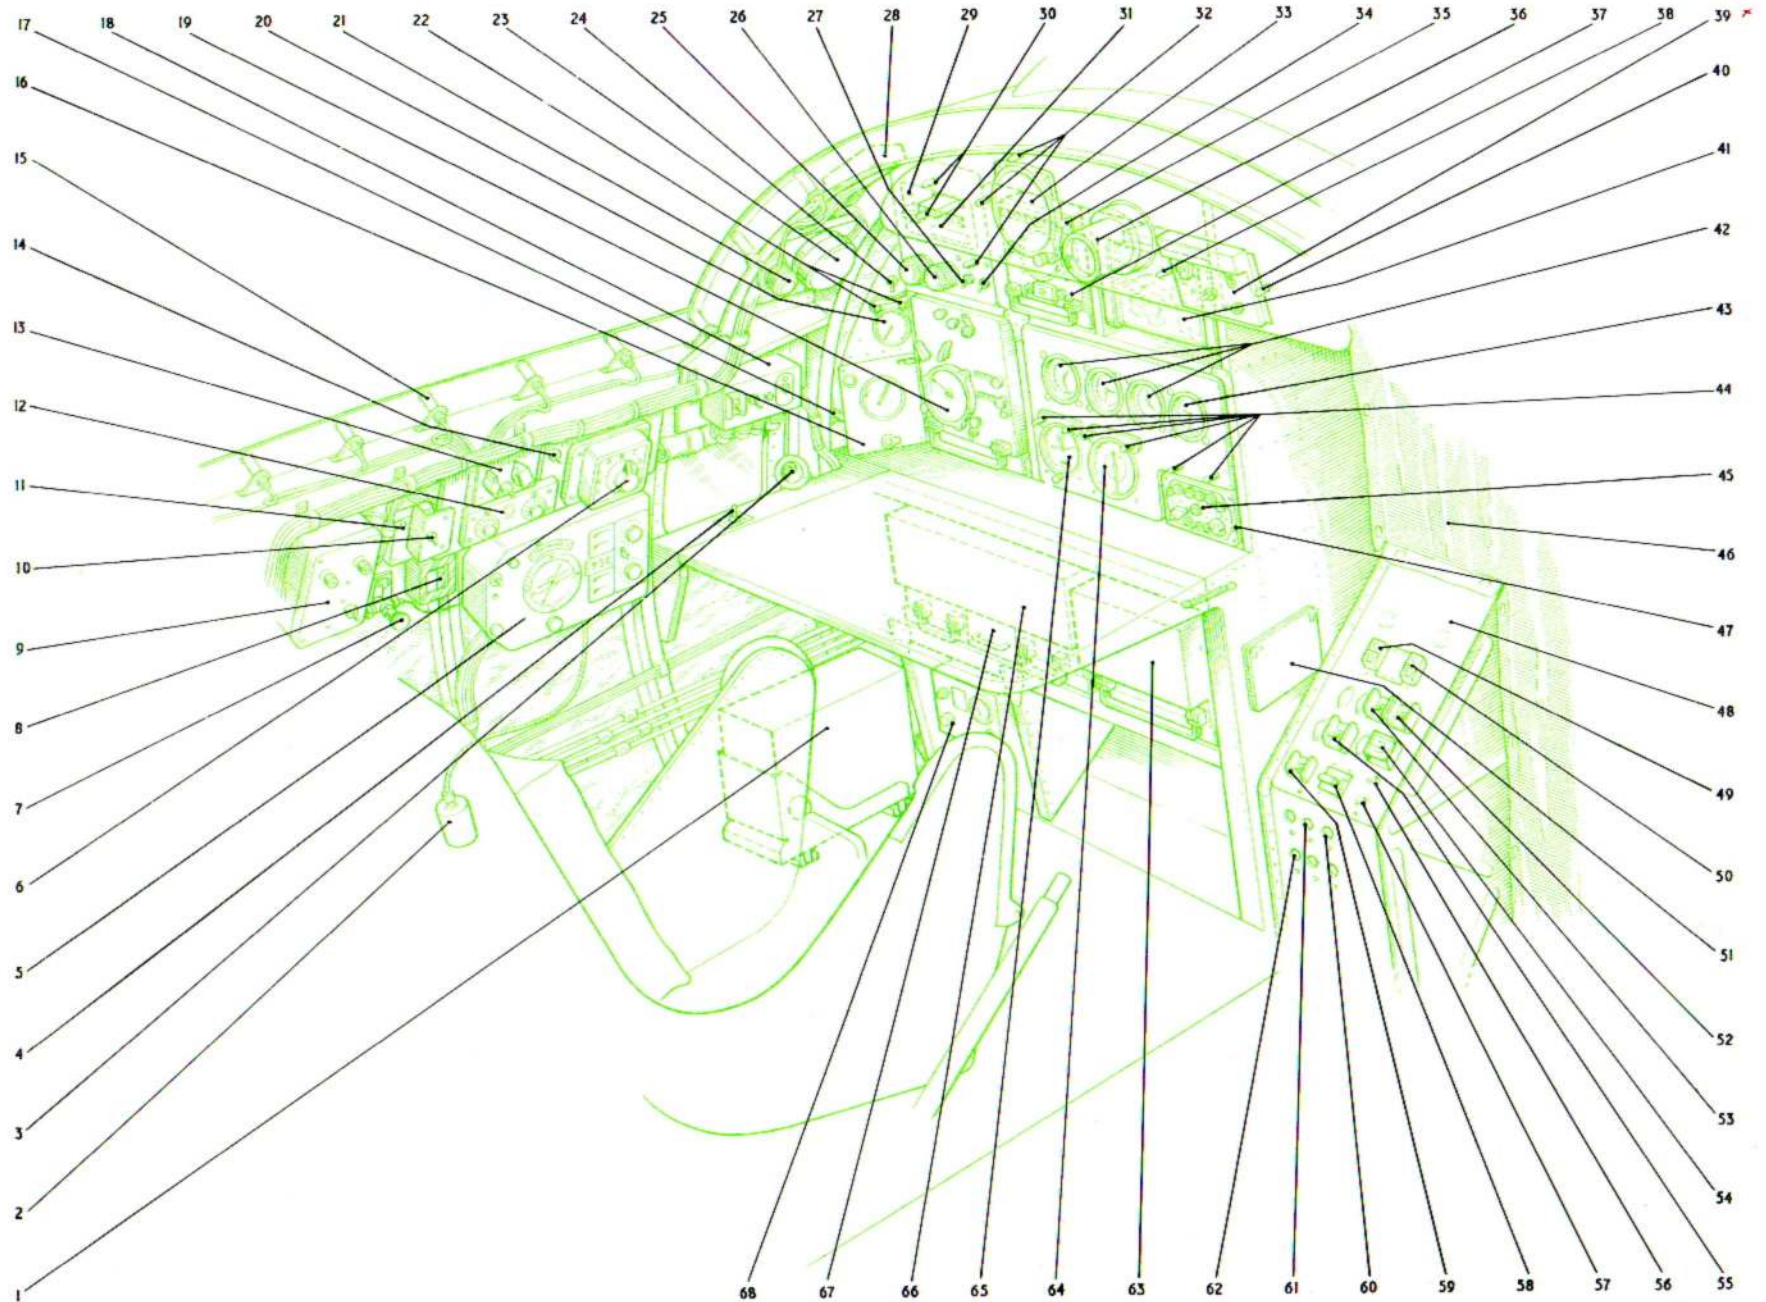

Fig.1. Navigator's station (B(I) Mk.6 aircraft)
1. This chapter provides information regarding the disposition, function and operation of controls and equipment at the crew stations on both B and B(I) Mk.6 aircraft. The general equipment is illustrated in fig.1 to 6.
**Navigator's station (fig.1 and 4)**
KEY TO FIG.1 (NAVIGATOR'S STATION - B (I) MK.6 AIRCRAFT)